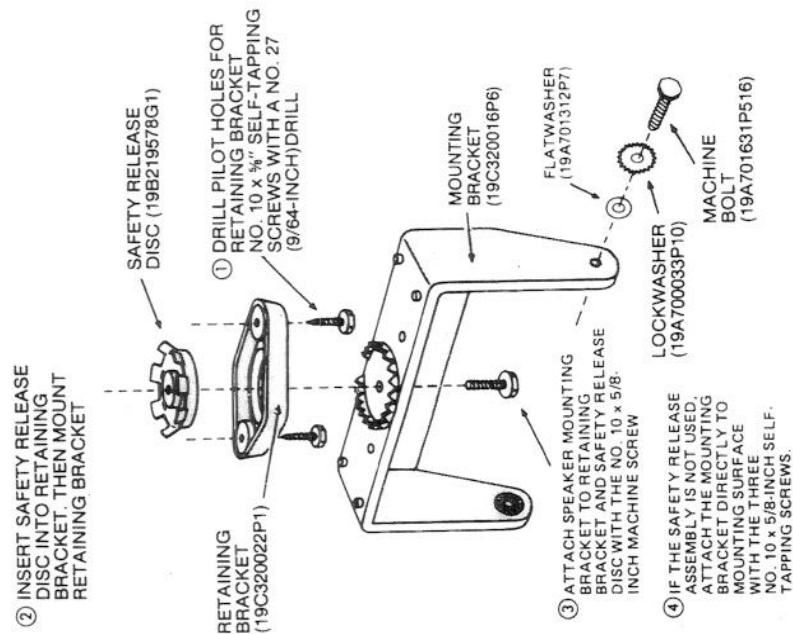

FIGURE 16 - MOUNTING THE SPEAKER
1. Mount the External Speaker where the sound will be directed to the operator but not interfere with his vision or provide a hazard to passengers in case of an accident. The speaker may be mounted on the lower edge of the instrument panel, the firewall, or above the windshield in some trucks. Use the mounting bracket as a template for locating the mounting holes, and mount the speaker as shown in Figure 16.
3. Crimp an insulated 1/4 inch spade tab receptacle to one end of the #18 red wire. Connect the receptacle to relay lug #86. Cut the red lead so the fuse assembly is close to the voltage source. Install the fuseholder. Attach the other end of the fuse lead to the voltage source with appropriate hardware. See Figure 16.